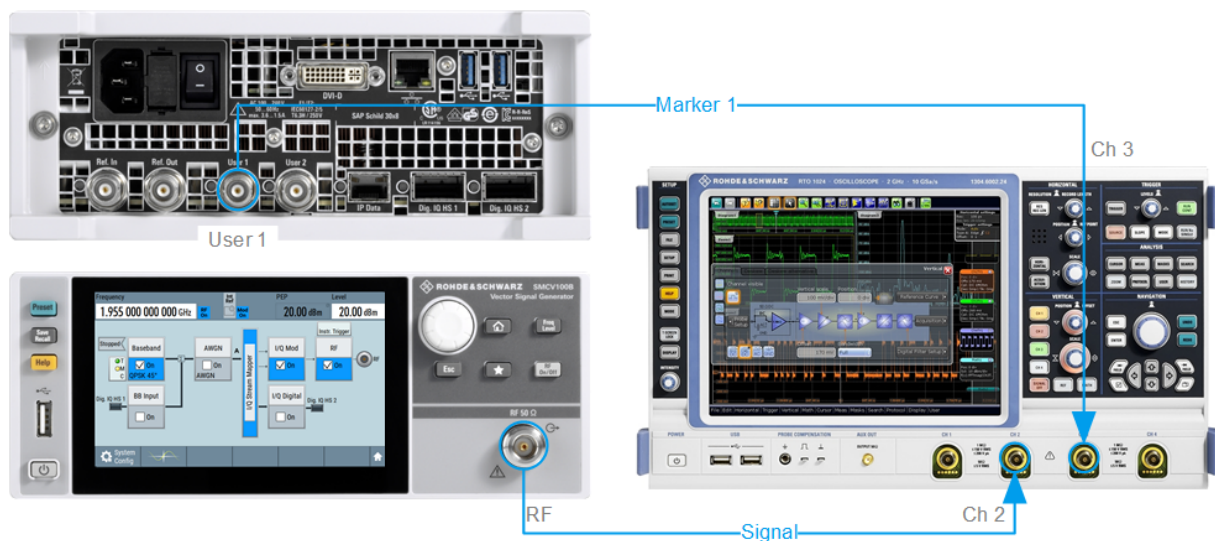

Figure 6-7: Simplified representation of a test setup for signal monitoring**
3. Use a suitable cable to connect the "User" 1 connector of the R&S SMCV100B to the monitoring instrument, for example an oscilloscope like R&S®RTO. See Figure 6-7.